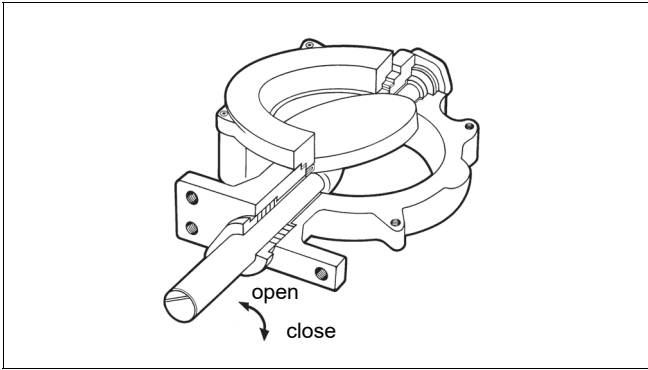

Fig. 13 The contact line between the disc and seat ring
The marking line parallel to the disc on the valve shaft head shows roughly the closed position of the disc (see Fig. 13).
- Check the position between the seat ring and the disc. The valve closes clockwise (see Fig. 13).
Press the shafts into the disc drillings. Align the pin holes. The shaft (11) position against the disc must be according to Fig. 13.
- Install the gasket (18) and the blind flange (10). Screws of the blind flange must be tightened evenly. An unevenly tightened flange will damage the seat.
- Install the body seal (19) and the clamp ring (2). See details in Section 5.5.
- Check the contact line between the seat ring and the disc (see Fig. 13).